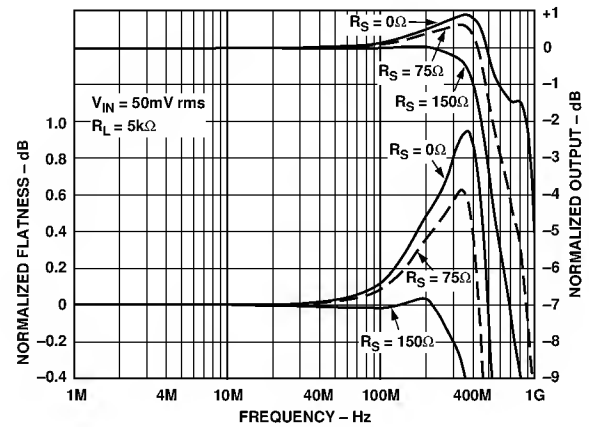

Figure 20. Frequency Response vs. Input Series Resistance
- ⁵A resistor (R_S) placed in series with the mux inputs serves to optimize 0.1 dB flatness, but is not required. Increasing output capacitance will increase peaking and reduce bandwidth (see Figure 20).
Each open-loop buffer is implemented as a complementary emitter follower that provides high input impedance, symmetric slew rate and load drive, and high output-to-input isolation due to its β^2 current gain. The selected buffer is biased ON by fast switched current sources that allow the buffer to turn on quickly. Dedicated flatness circuits, combined with the open-loop architecture of the AD8180 and AD8182, keep peaking low (typically < 1 dB) when driving high capacitive loads, without the need for external series resistors at the input or output. If better flatness response is desired, an input series resistance (R_S) may be used (refer to Figure 20), although this will increase crosstalk. The dc gain of the AD8180 and AD8182 is almost independent of load